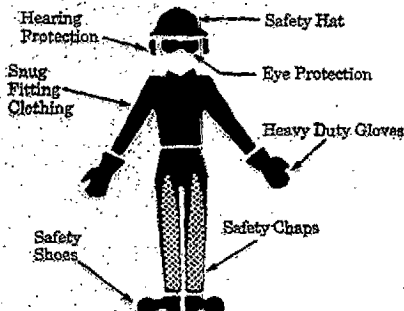

Figure 4
1. Wear protective gear. Figure 4. Always use steel-toed safety footwear with non-slip soles; snug-fitting clothing; heavy-duty, non-slip gloves; eye protection such as non-fogging, vented goggles or face screen; an approved safety hard hat; and sound barriers -- ear plugs or mufflers to protect your hearing. Regular users should have hearing checked regularly as chain saw noise can damage hearing.